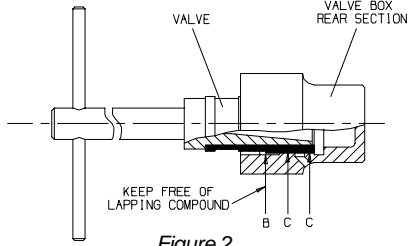

Figure 2
- b. Apply lapping compound to diameter “C” only; keep diameter “B” free of compound at all times. Insert the compound-coated end of the Valve into the rear section of the Valve Box as shown in Figure 2 and lap until a free fit is obtained.